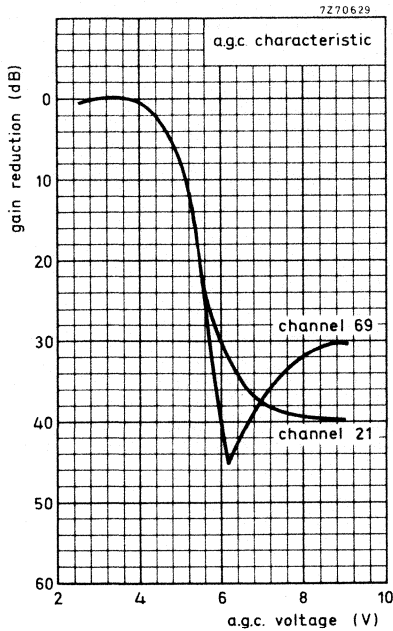

Fig. 5
A.G.C. voltage (Fig. 5, typical curves)